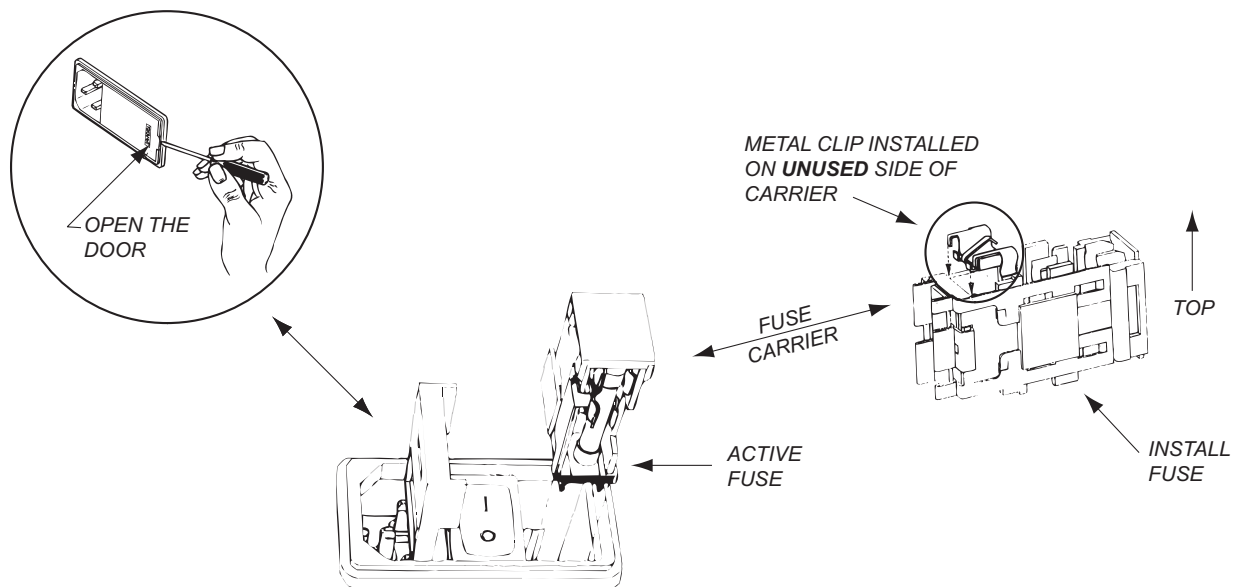

Figure E-1 Fuse Replacement
1. Open the fuse compartment door in the AC power input housing with a small flat-blade screwdriver. See Figure E-1.
2. Check that the fuse in the active (lower) fuse carrier is the correct rating. The fuse carrier must be inserted into the compartment with the orientation shown in Figure E-1. Do not force the carrier into the compartment or both could be damaged.